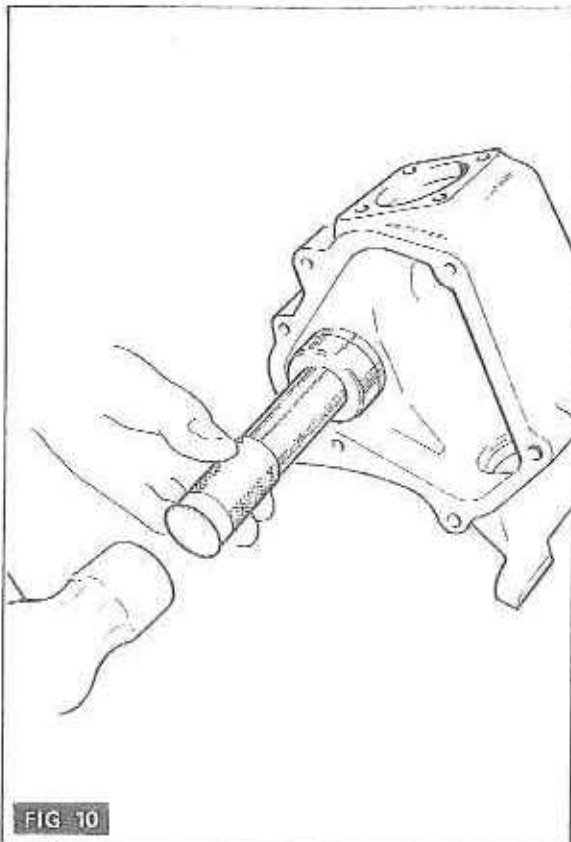

FIG 10
1. (Fig. 10) Position the new bush squarely over its bore and drive the bush in using tool MF 263-2 and 550 handle.